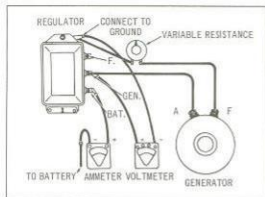

Figure 51-2.
A. TESTING THE GENERATING SYSTEM (SEE FIGURE 51-2)
B. TESTING CUTOUT RELAY UNIT CLOSING VOLTAGE (THE SAME CONNECTIONS ARE USED AS IN TEST A (FIG. 51-2.))